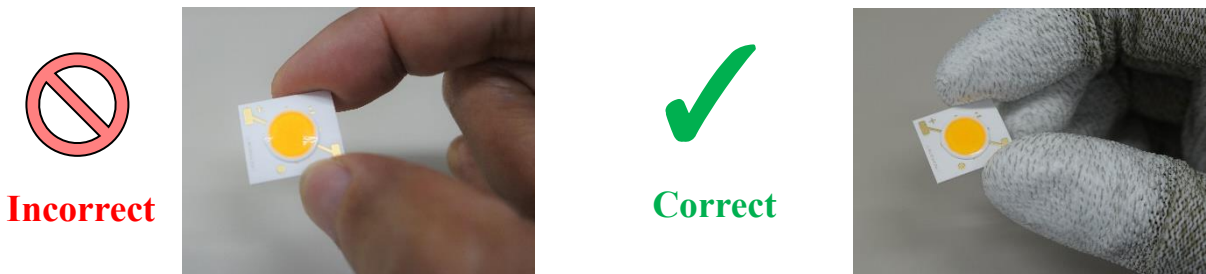

Figure 4. Handling the COB LED with Bare Hands
- this may cause the LEDs to deform and/or the wire to break causing a catastrophic failure (i.e. the LED not to illuminate). See Figure 4.